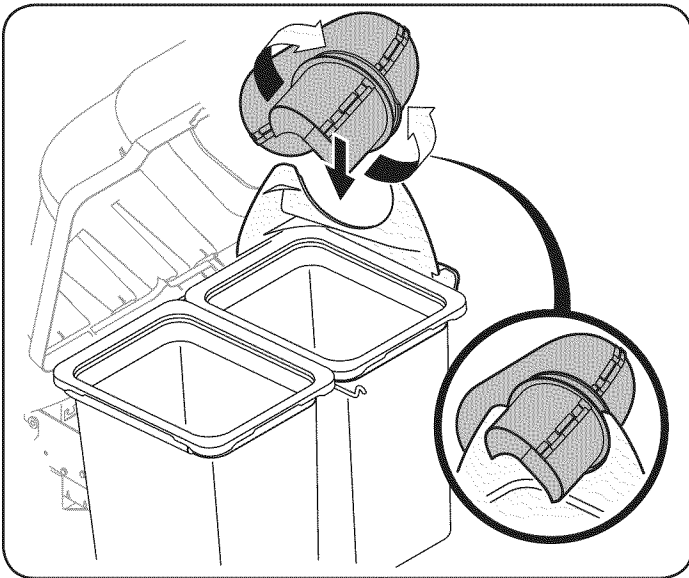

Figure 25
4. Continue to work the discharge chute down over the chute elbow until the groove on the discharge chute aligns with the upper chute support, as seen in the inset of Figure 25.